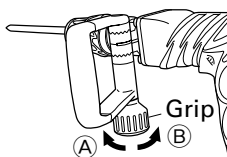

Fig. 5
- (1) Loosen the handle by turning the grip in the direction of (A) as shown in Fig. 5.